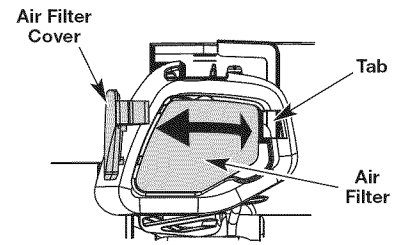

Fig. 21
1. Open the air filter cover by pressing the lock tab in and pulling out on the air filter cover (Fig. 21).
2. Remove the air filter (Fig. 21).
6. Replace the air filter into the base plate (Fig. 21).
7. Reinstall the air filter cover. Position the two small tabs on the air filter cover into the two slots in the base plate and press the air filter cover down, making sure to align the lock tab with the lock tab slot, until it snaps into place (Fig. 21).